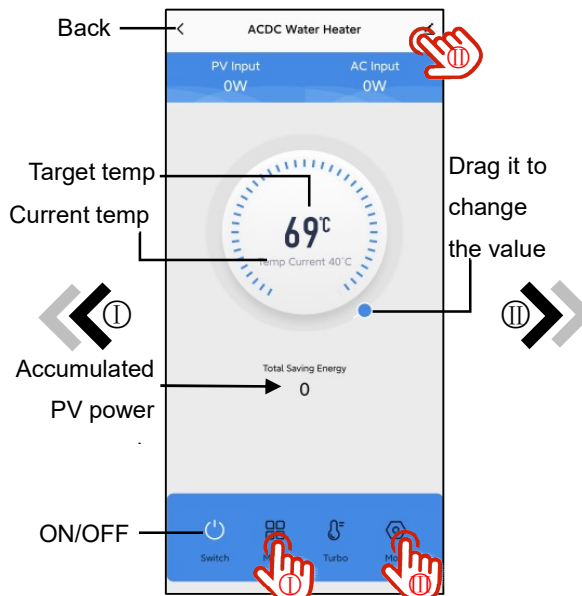

Fig.18 App main interface
- The value shown in the center of the circle is the target inlet water temperature, which can be changed by dragging the position of the outer ring point. The value directly below the set temperature is the current inlet water temperature (Fig.18).